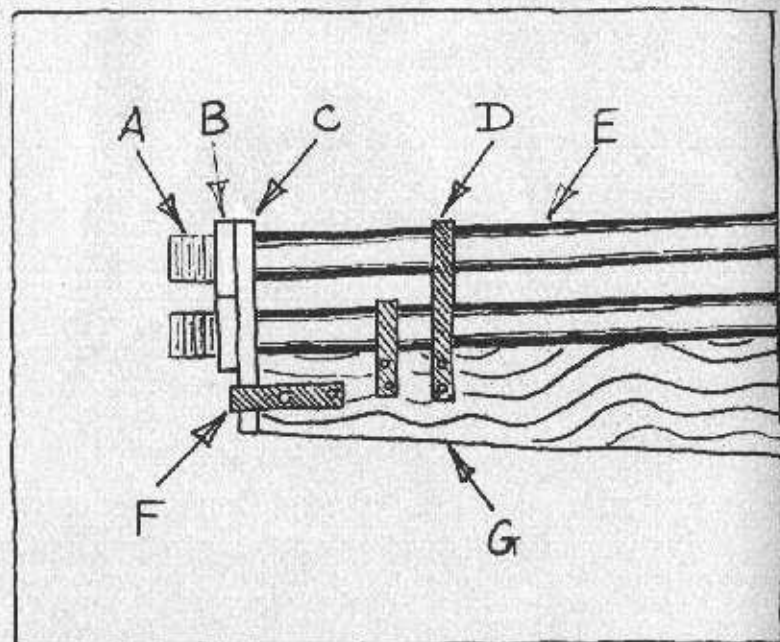

Figure 4-11
15. Brace the double barrel as shown in Figure 4-11 because, as described so far, only the lug connecting the collars resists the backward thrust of the top barrel when it is fired. For further reinforcement, the collars could even be welded together. The double barrel is now complete.